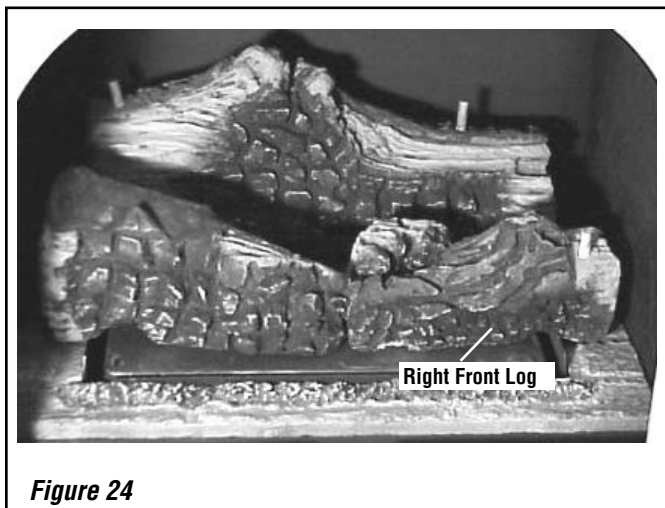

Figure 24
5. Install the right front log onto the corresponding burner pin and sub-floor right tab as shown in **Figure 24**.